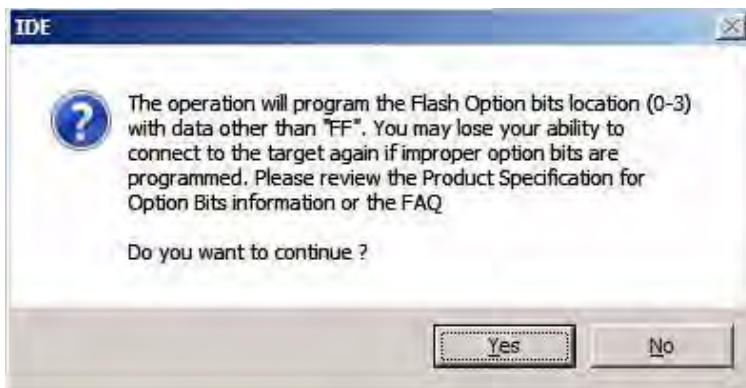

Figure 10. Flash Option Bit Programming Message
10. If prompted to program the Flash Option bits as shown in Figure 10, click **Yes**.